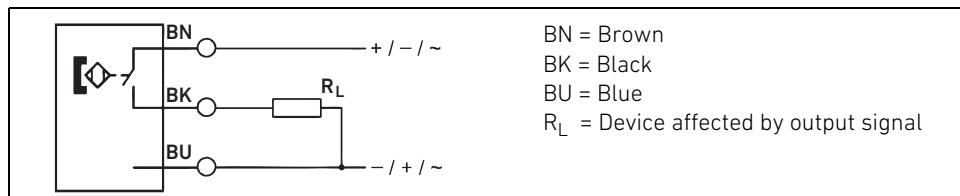

Fig. 8: Connection of sensor
5. Connect the sensors according to Fig. 8.
3. Position the sensor in the sensor holder and connect it according to Fig. 8 on page 44.